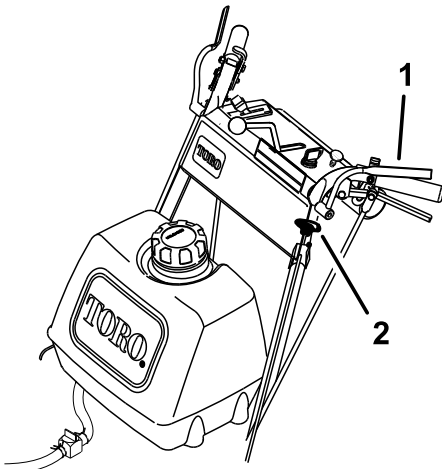

Figure 10
1. Squeeze the operator-presence control levers against the handle grips (Figure 10).
2. Pull the blade-control switch (PTO) up and hold the operator-presence control levers against the handle grip (Figure 10).